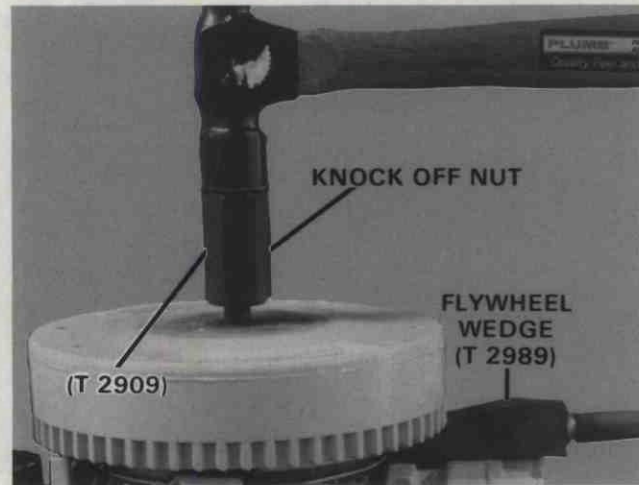

Figure 13. Removing Flywheel from Power Head.
7. Thread knock off nut (Special Tool No. T 2909) on crankshaft as far as it will go then back nut off two full turns. Figure 13.